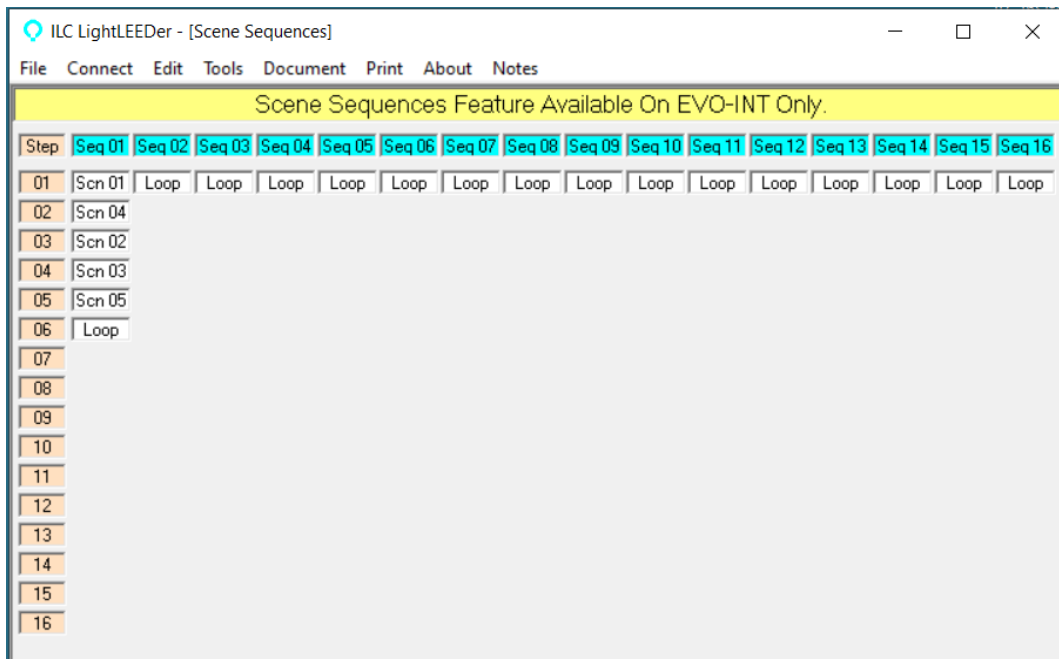

Figure 4 – Scene Sequences
5. Create the scene sequence, using “Scene Sequences (EVO-INT)” under “Other Devices” then “Dimmer Outputs”. Refer to Figure 4.